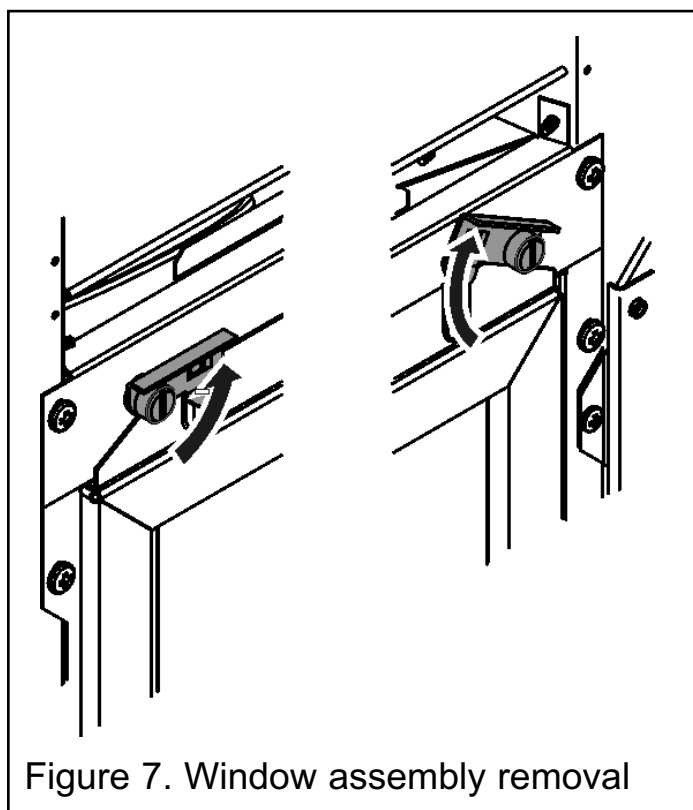
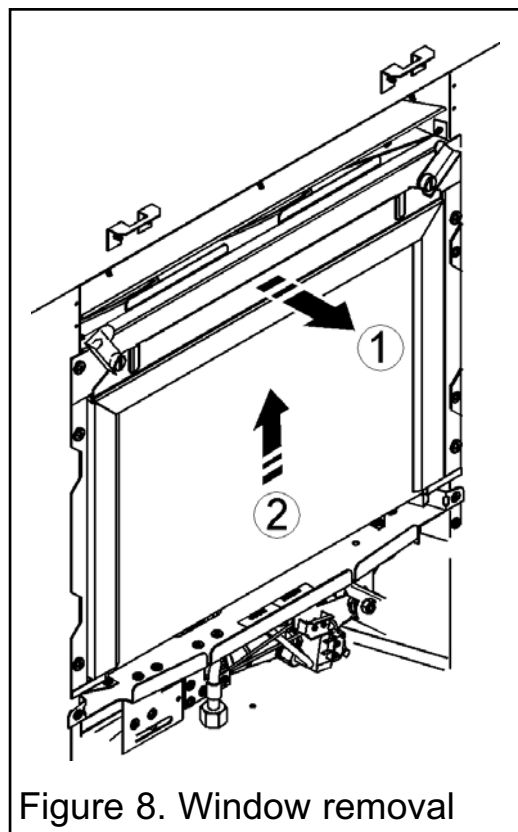

Figure 7. Window assembly removal
Figure 8. Window removal
1. The window assembly is held in place with two clamping brackets that rotate around a central pivot point. Push the brackets up and clear of the window assembly (See figure 7). Gently pull the top of the window frame forward and lift the window assembly clear of its support channels (See figure 8). Place the window